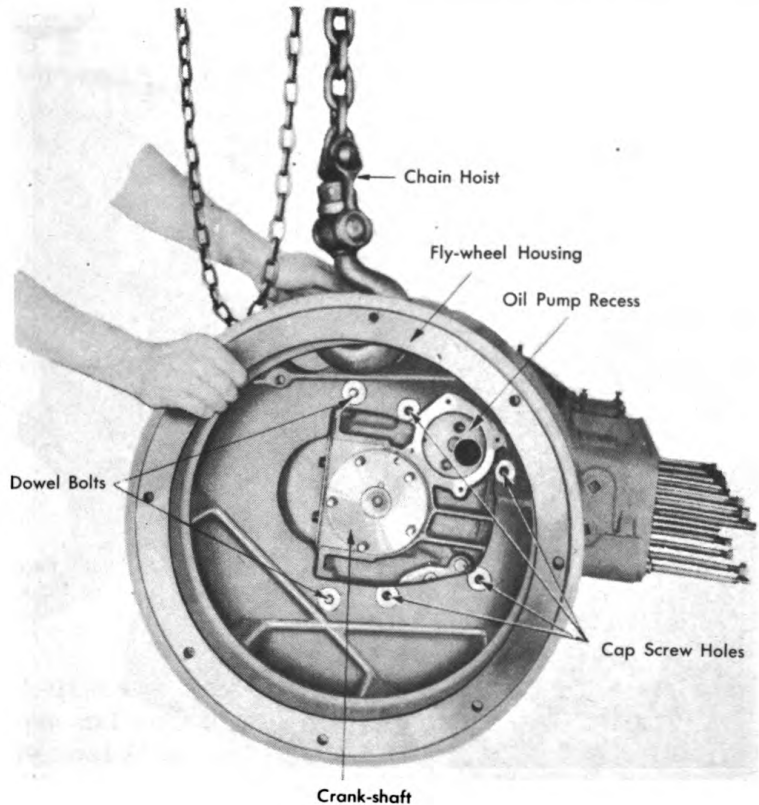

Figure 129. Removing Flywheel Housing.
24. With a chain hoist, lay the engine on its left side and remove the flywheel housing with the aid of the chain hoist after having removed the four capscrews and dowel bolt nuts, as shown in Figure 129.